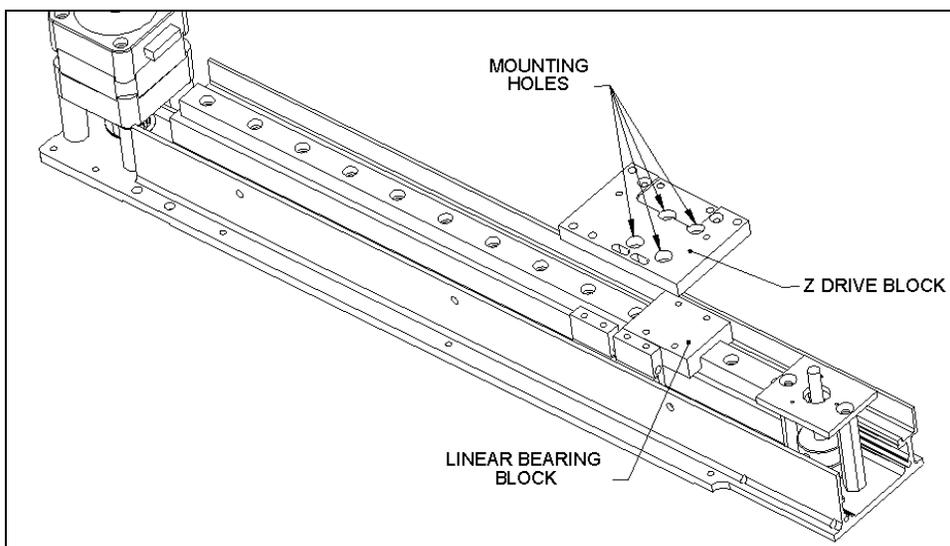

Figure 7-26 Z-Drive Block and the Linear Bearing Block
- 4 Place the Adjustable Drive Block and the Fixed Drive Block in position and then place the Z-Drive block (Part No. 204004600) onto the linear bearing block (Figure 7-26). Fit the Z-Drive Block to the Linear Bearing Block using the four M3 x 6 Cap Head screws.